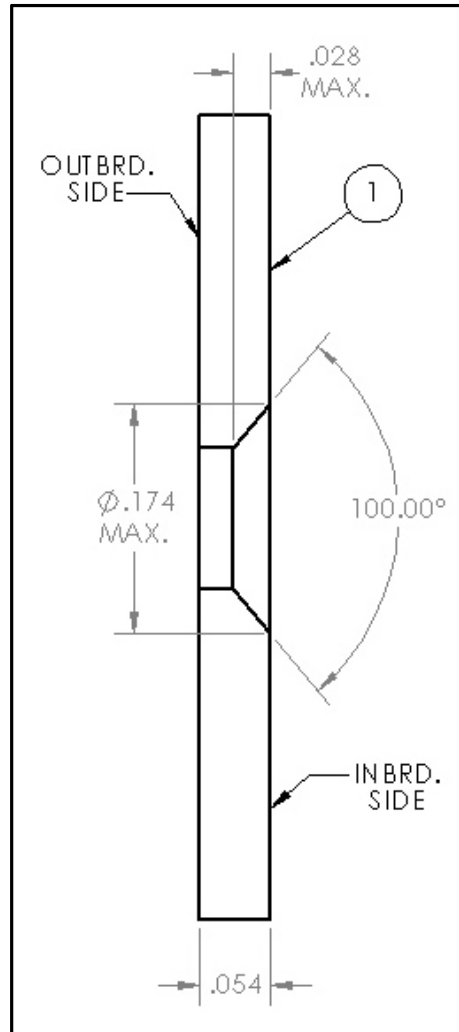

Figure 1
- 4.7** Utilizing the supplied drill bit and a drill press, enlarge stud (7) holes to 0.53" DIA reference sheet 2 of the drawing, and deburr with abrasive cloth 320 grit or finer. Countersink ejector rivet (10) attachment holes on the inner side of the cover to 0.174 DIA by 0.028 deep maximum per figure 1.